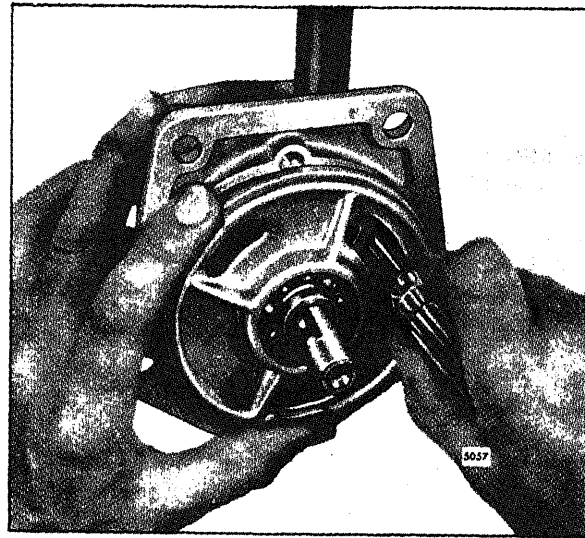

Fig. 4 - Removing Fork from Operating Shaft
- the screws that hold the fork to the operating shaft (Fig. 4). Then remove the two screws and washers.